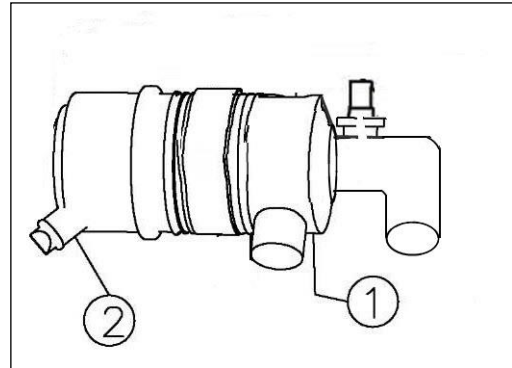

Fig.5-8
5.27 OPERATION 6; AIR FILTER DISCHARGE VALVE FIG. 5-8